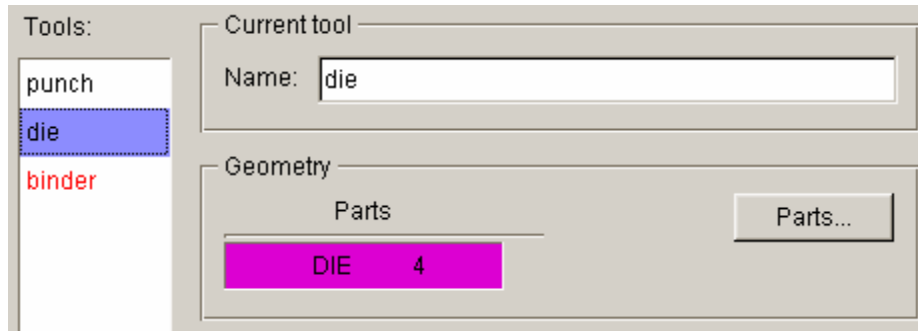

Figure 2.29 Die definition interface
- Click **Exit** button to return to tool definition interface. Now, you can observe the font color of **die** is also changed to BLACK. See Figure 2.29.